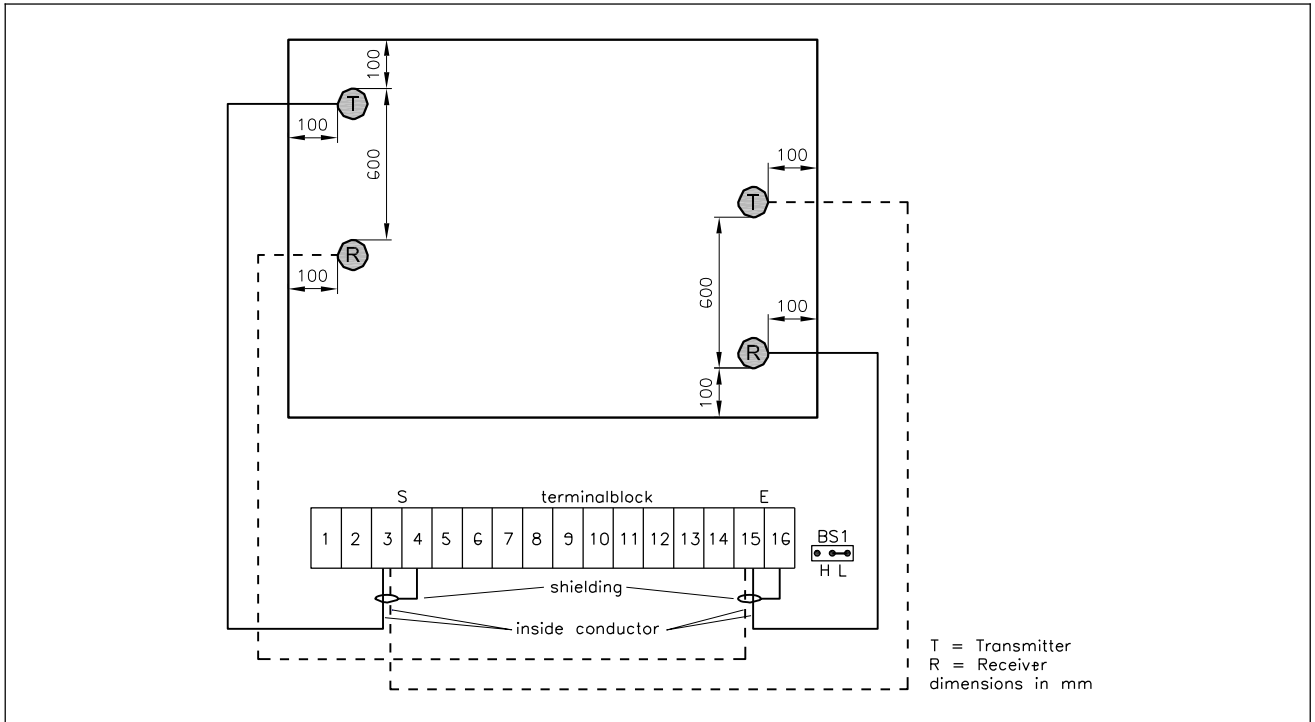

Figure 2 Mounting and connect with 2 pairs of sensors
3. If the voltage reading is not as specified in (2), then the BS 1 jumper should be set to "H". If the memory can be cleared after 30 seconds, the measured voltage should also be < 4,5 V. If the memory cannot be cleared after 30 seconds, then the transmission is considerably inhibited, and you should proceed according to (4).
4. In the case of extreme damping effects from the glass (such as laminated or bullet-proof glass), two additional sensors should be bonded to the pane and connected to the evaluation unit as shown in Figure 2. If the memory can be cleared after 30 seconds, the measured voltage should also be < 4.5 V. If clearing is not possible or the voltage is greater than 4.5 V, it cannot be ensured that the detector will work properly.